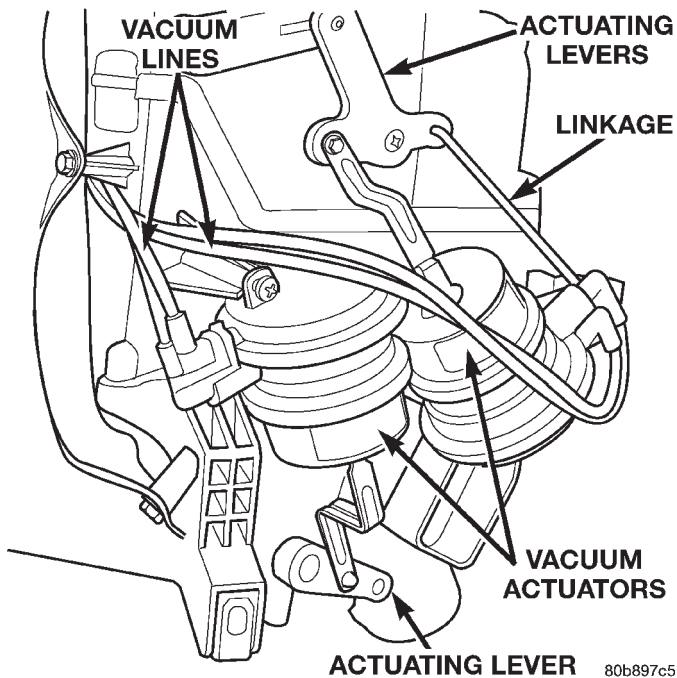
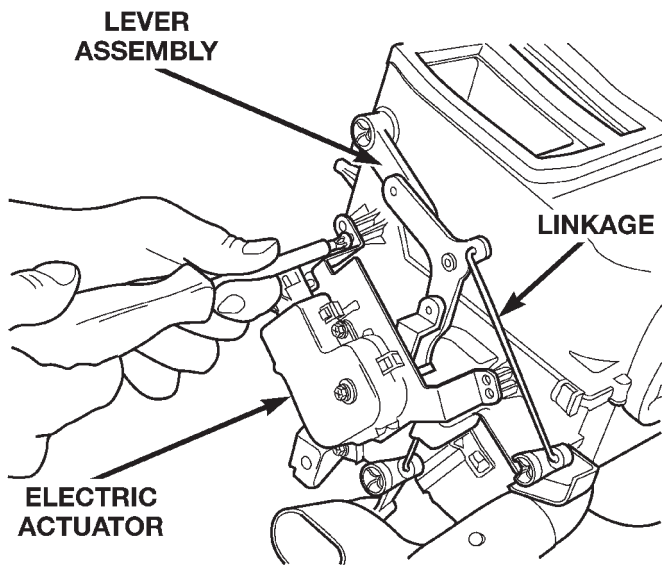

Fig. 18 Mode Door Actuators-Manual System
Fig. 19 Mode Door Actuator-AZC System
(4) Place the heater-A/C housing in the upright position on the work bench.
(5) Remove the mode door actuator on the left side of the housing, controlling the mode door in the top of the case (Fig. 18) (Fig. 19).